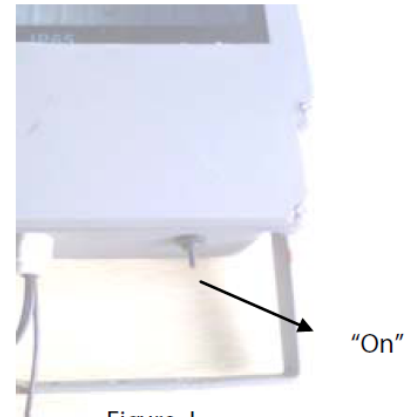

Figure 1
2. Face the panel in direct sunlight then turn the switch on the light fixture to the ON position (Fig1). The light should turn on and then shut off automatically after 15-20 seconds.